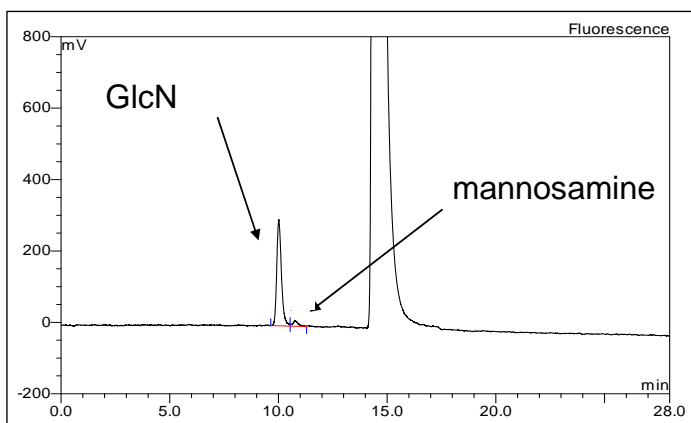

Figure 2: 2-AA fluorescence chromatogram of monosaccharide glucosamine (GlcN). This chromatogram shows the epimer peak from GlcN.
4. Glucosamine is subject to an approximate 4 % epimerisation resulting in mannosamine (Figure 2). Mannosamine elutes immediately before the galactosamine peak, with no baseline resolution.